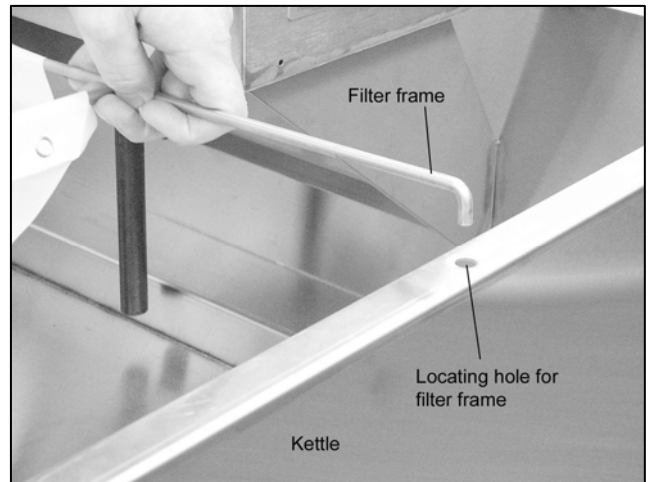

Figure 1-5. Installing the filter frame.
3. Install the filter assembly (the frame with the filter bag attached) onto the kettle. See Figure 1-5.